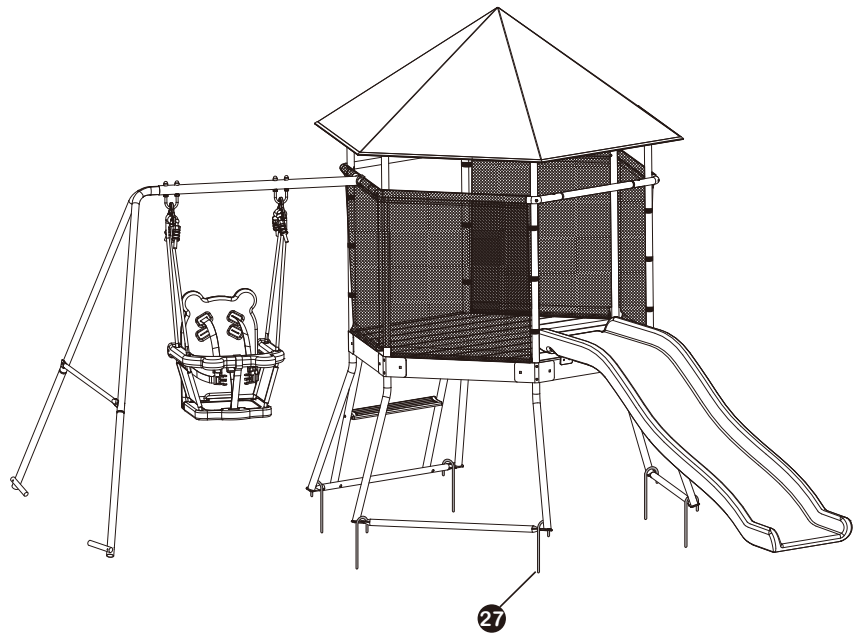

FIGURE 21
- Attach Anchors (27) to Base Connection Tube (2) as shown in Figure 21.